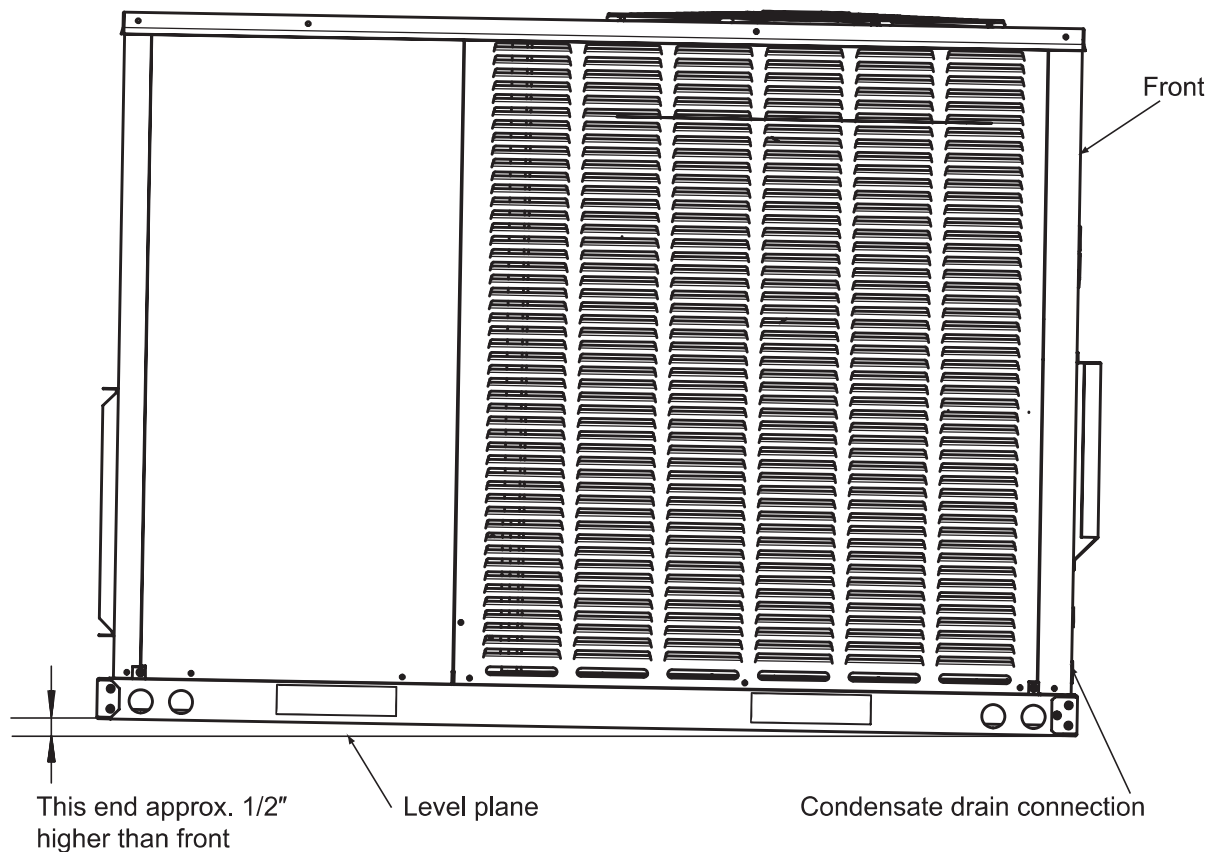

Fig. 3-3 Slab installation
6. Pitch the slab approximately 1/2" so that the unit will be pitched toward the drain. See Figure 3-3.